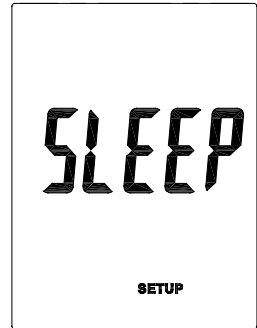

Fig.11
1. While in Setup mode, press **▲/Unit** or **Unit/▼** button to scroll to the **SLEEP** setup option screen (Fig. 11).